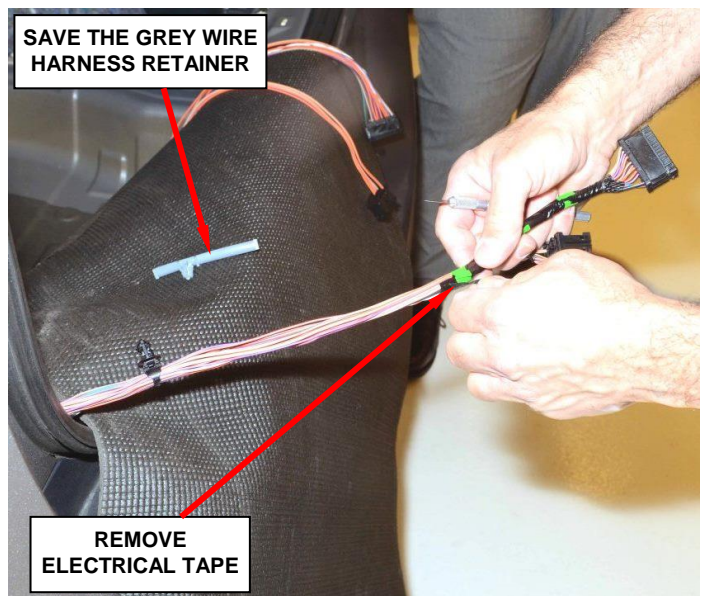

Figure 7 – Remove Electrical Tape
5. Remove and discard the wire harness electrical tape (Figure 7).